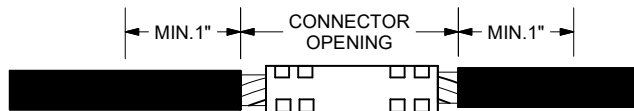

Figure 3
3. Install the compression sleeve. Make as many crimps as possible without overlap. Use the dies shown in the table. Remove the excess flash and inhibitor. See Figure 3.